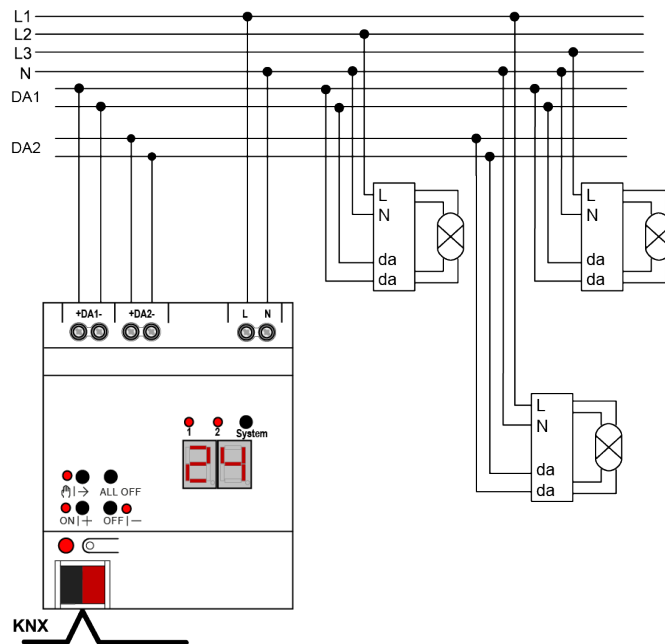

Figure 3: DALI gateway connection example, 2fold
- Connect device as shown in the connection example (see figure 3).